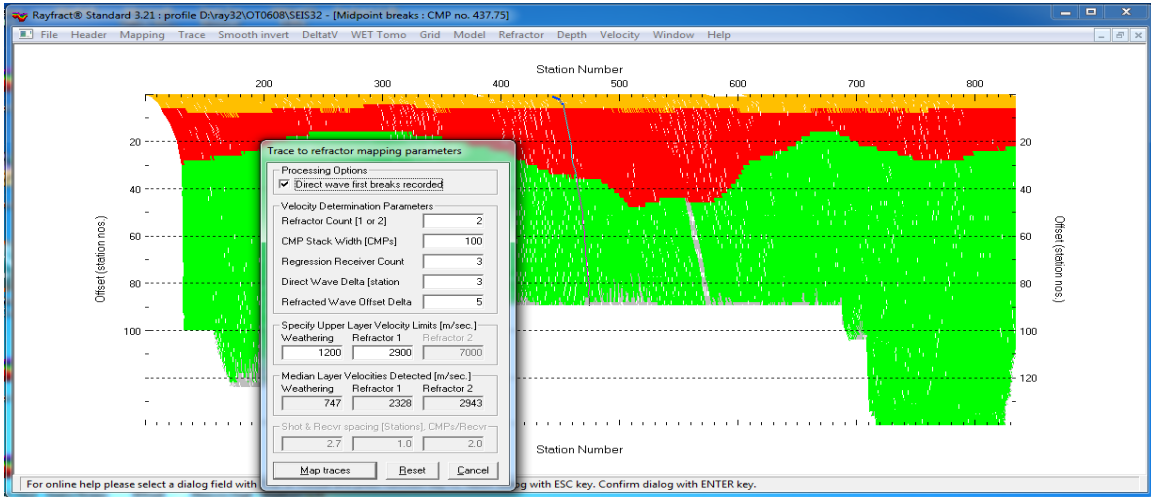

Fig. 10 : Refractor|Midpoint breaks, press ALT+M to edit mapping dialog
- Press ALT+M, to edit *Mapping dialog* (Fig 10)
- Click *Accept*, to smooth refractors (Fig. 10)